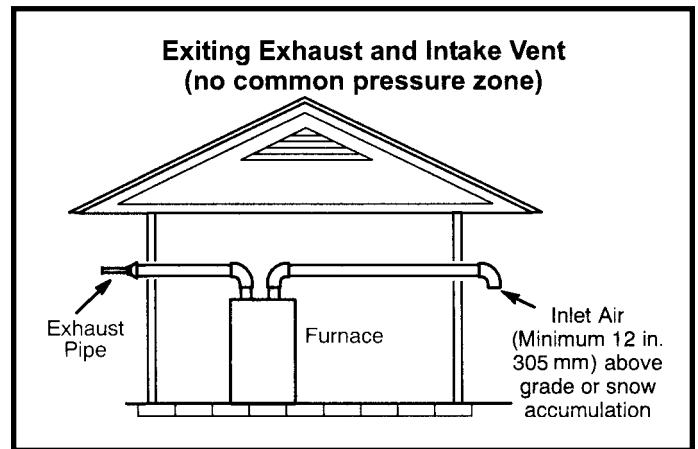
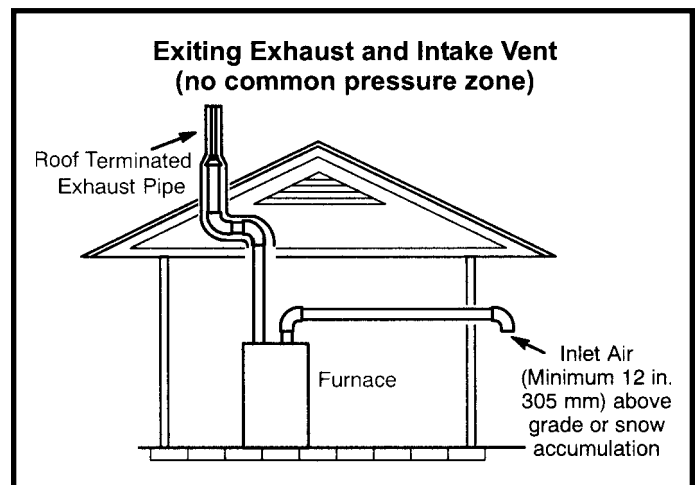

Figure 30
Figure 31
1. Vent terminations are not required to be in the same pressure zone. You may exit the intake on one side of the structure and the exhaust on another side (Figure 30). You may exit the exhaust out the roof and the intake out the side of the structure (Figure 31).